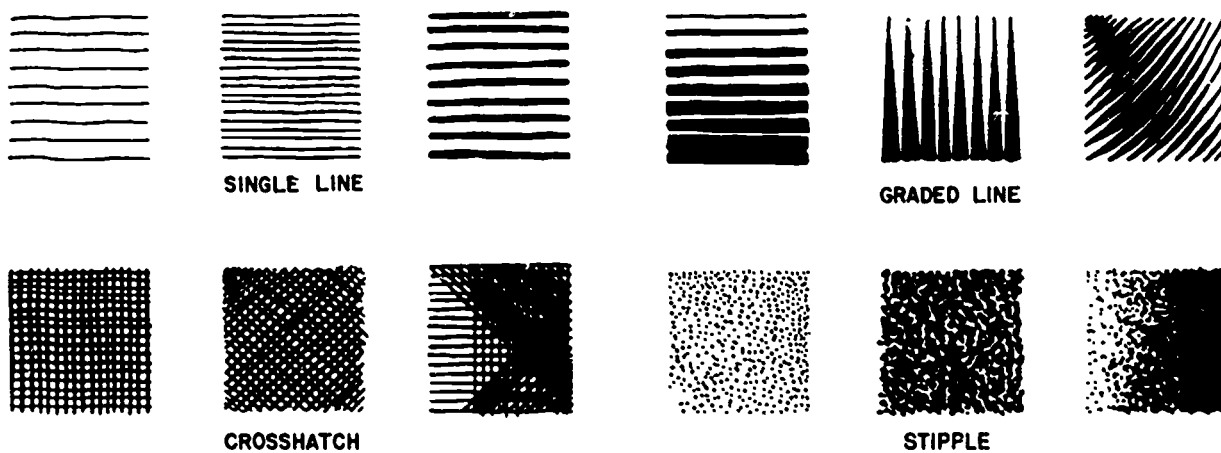

Figure 1-6. Examples of tone and shading by line techniques.
*Line rendering of tone.* Drawing tone or shade by means of line is an extension of outline drawing. The effect of tone or shade can be produced by drawing a series of parallel lines. Some of the tonal effects that can be achieved by line are shown in figure 1-6. To give the effect of flat tone, the lines must be parallel, equally spaced, and uniform in width. Darker tones may be produced by either placing the lines closer together or by using thicker lines. Of course, each technique produces
the crosshatching. Notice the difference in the effect of the examples shown in figure 1-6 when perpendicular crosshatching is drawn in horizontal and vertical directions rather than when drawn in diagonal directions. Also notice in figure 1-6 that darker tones are obtained by drawing additional lines in a different direction.
The use of graded lines is another technique of pen-and-ink medium. This technique uses lines of varying width to produce the effect of tone or shade. Three different methods of obtaining tone are shown in figure 1-6. One method uses lines of various thickness to show gradation from light to dark. Another method uses lines which vary from thin to thick. The final example shows
The bottom three examples of pen-and-ink techniques shown in figure 1-6 present an entirely different quality of tone. Here the lines are so short that they appear as dots. The dots are distributed at random until the desired tone is obtained. As you can see, the stipple technique not only gives a tonal effect, but also suggests texture.